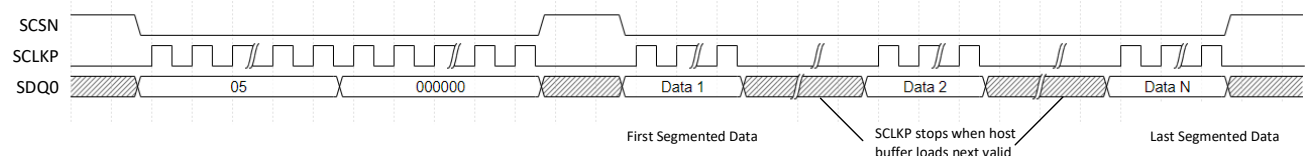

Figure 6.18. Segmented Bitstream Burst Mode Timing Waveforms
3. Host asserts SCSN low. Clock in the segmented bitstream. The segmented bitstream can be in any size. For example, the bitstream can be split into 4096 bytes per data block and sent to the FPGA block by block. In between the loading of bitstream segments, SCLKP must remain idle or stop toggling when a valid segmented bitstream is unavailable or the host buffer is in the process of loading the next valid segmented bitstream on the SDQ0 (x1 mode) interface (refer to Figure 6.18).